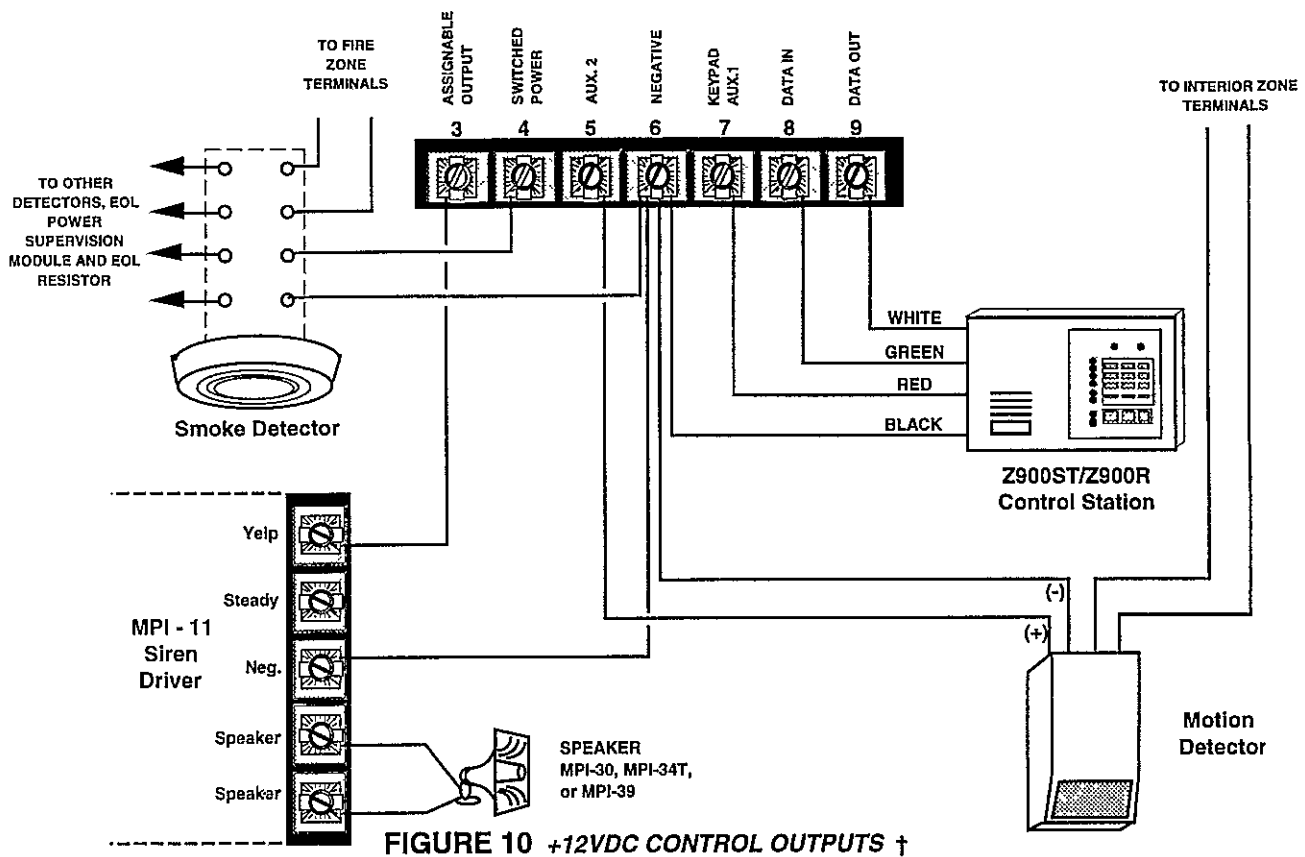

FIGURE 10 +12VDC CONTROL OUTPUTS †
Provides (+)12volts DC power for smoke detectors (see *ff* note on page i) and other devices that require momentary power interruption to reset. The power from this output can be momentarily interrupted to reset smoke detectors by pressing the "7" key and holding for three seconds. Each time the control does an automatic 24 hour test, power from this output will be removed for 5 seconds. For this reason, Switched Power should not be used to power any device that will trigger an alarm upon interruption and restoration of power. This output is fused at 2.5 amperes by fuse F2 which is also used to fuse the Keypad Power/Auxiliary 1 output (terminal 7). Do not exceed the current drain limitations as indicated in Table 10, page 42. See Figure 10 for a hook-up example.
Used to provide (+)12 volts DC power for motion detectors and other devices requiring uninterruptable power. This output is protected by a 2.5 ampere fuse (F1) which is also used to fuse the Assignable Output (terminal 3). Do not exceed the current drain limitations as indicated in Table 10, page 42. See Figure 10 for a hook-up example.
Used to supply (+)12 volts DC power for control stations. This output is fused at 2.5 amperes by fuse F2 which is also used to fuse the Switched Power output (terminal 4). This output may also be used to supply auxiliary power for motion detectors and other devices provided the total current draw does not exceed the limits as set by Table 10, page 42. See Figure 10 for a hook-up example.
Assignable through programming (Function 256) to provide a (+) 12volt DC output upon any or all designated alarm conditions. If this output is not used for output upon alarms, it may be assigned to any ONE of the following other conditions: Switched Power reset (key 7)/24 hour automatic tests, access activation, supervisory/trouble conditions, or entrance pre-alarms and chime (key 6). If used to provide output upon alarms, it then must be defined as to the type of alarm condition(s) that will activate this output. This may include Burglar, Auxiliary "A", Auxiliary "B", or Auxiliary "C" alarms (or any combination) as selected through programming Functions 257-260. Sirens, bells, or other output devices may be connected directly to the Assignable Output (terminal 3) of the control provided they do not exceed the current drain limitations as indicated in Table 10, page 42. It may be desired to use this output for non-alarm conditions when using the optional Z729 Siren Driver/Output Expander. This output is protected by a 2.5 ampere fuse (F1) which is also used to fuse the Auxiliary 2 output (terminal 5). See Figure 10, page 10 for a hook-up example.